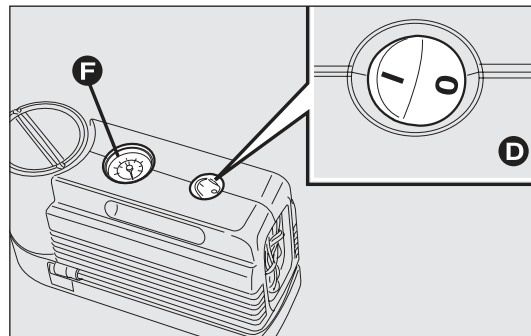
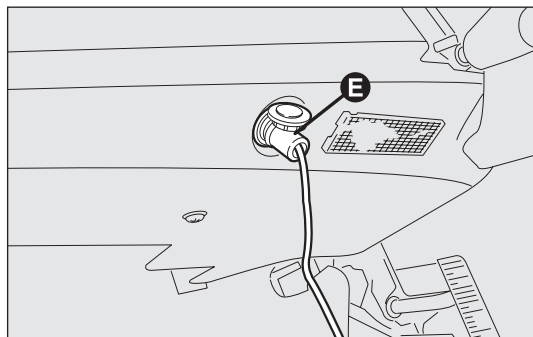

fig. 130
fig. 131
- make sure that switch D-fig. 130 for the compressor is in position O (off), start the engine, insert pin E-fig. 131 into the nearest socket and switch on the compressor by moving switch D-fig. 130 to position I (on). Inflate the tyre to the pressure value specified in paragraph “Inflation pressure” in chapter “Technical specifications”.
Check tyre pressure on gauge F-fig. 130 with compressor off to obtain precise reading;